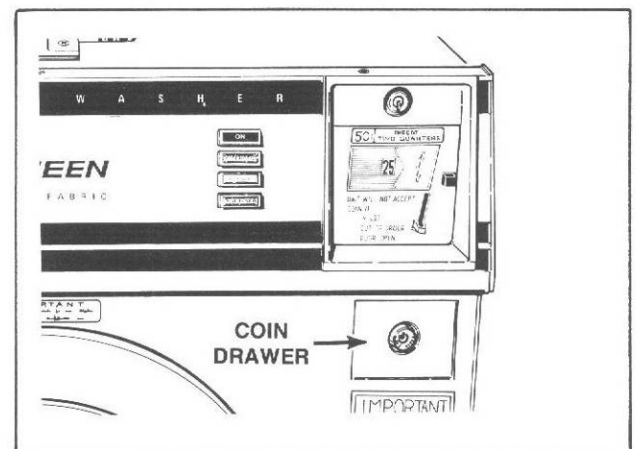

Figure 9
- Unlock and remove coin drawer, Figure 9.